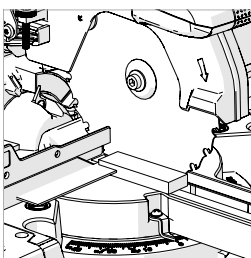

Fig. 30
- Place a set square on the table with one edge against the Fence and the other edge against the Blade (avoiding the TCT tips). (Fig. 30)
- If adjustment is necessary, loosen the three (3) Fence adjustment screws using a Hex Key.